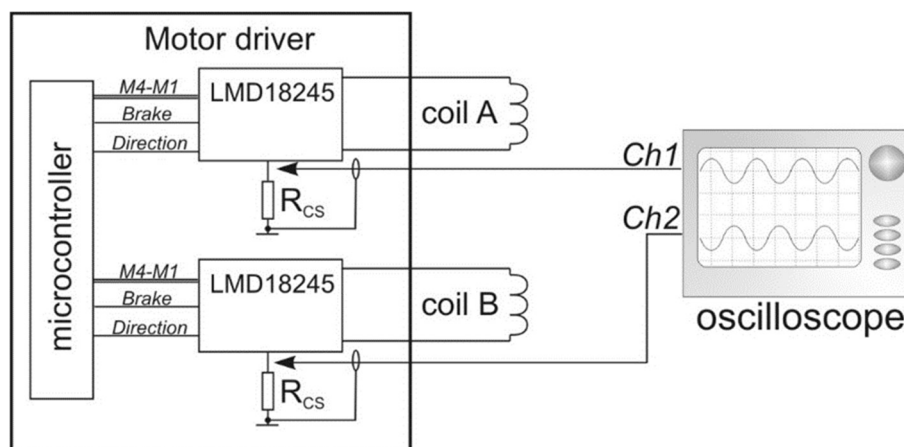

Figure 3. Measurement of stepper motor current
- d) Connect oscilloscope to PCB with motor driver as shown in Figure 3;